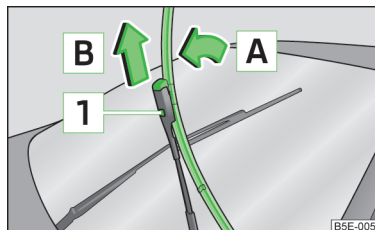

Fig. 205
- Raise the windscreen wiper arm away from the windscreen » Fig. 205.